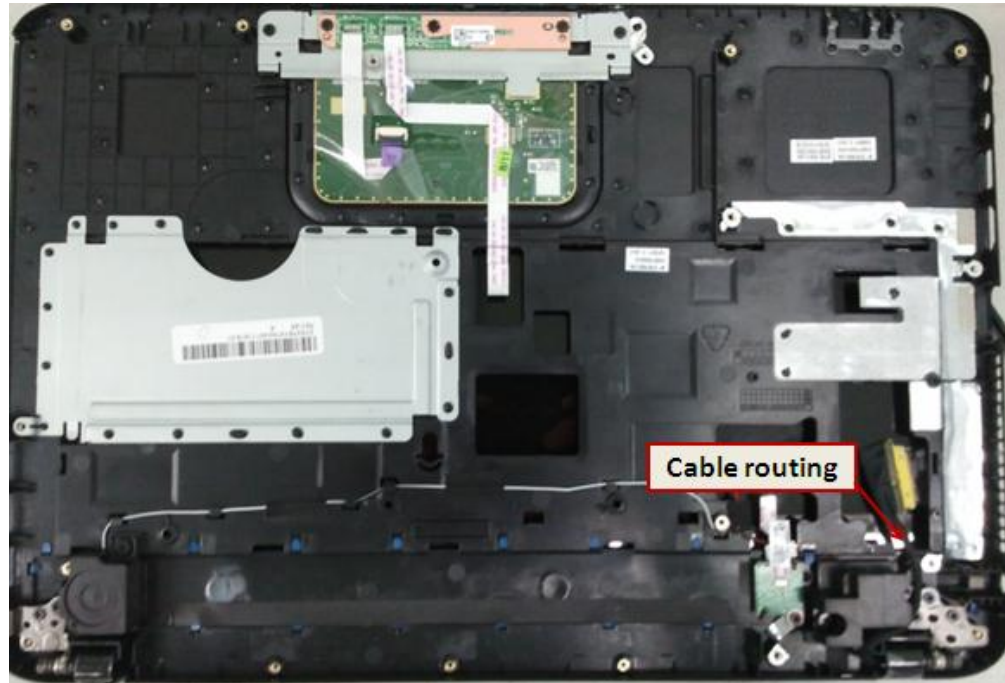

Figure 4-8-4 LCD cable routing
2. Put LCD cable in the right place and put MB on the top. (Figure 4-8-4)